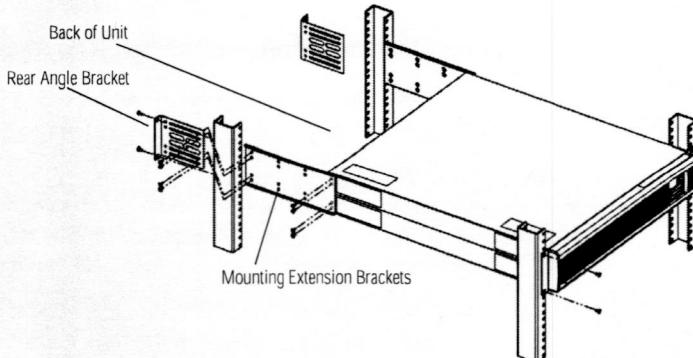
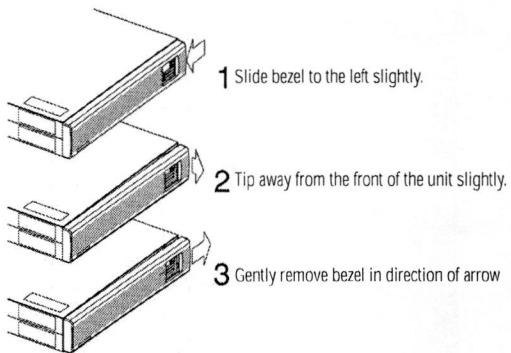

Fig. 9: Attaching the Back Angled Brackets
Fig. 10: Removing Front Bezel
4. Place the two large angled mounting brackets at the rear rack support rails with the long sides facing inward (fig. 9). Secure with four (4) rack fasteners (not provided). The ON2000 Universal Mount uses eight (8) fasteners (not provided).
6. Mounting extension brackets are flat with a small lip along each long side. The lip should face away from the cabinet. Attach one to each side of the cabinet using four (4) of the #6-32 screws, provided, through the four (4) round clearance holes (fig. 9) and tighten securely.
For the ON2000, attach two mounting extension brackets to each side of the cabinet using eight (8) of the #6-32 screws, provided, through the eight (8) round clearance holes and tighten securely. See figure 10.
8. Secure the ears of the front brackets to the front side of the rack posts with four (4) rack fasteners (not provided). The ON2000 Universal Mount uses eight (8) fasteners (not provided).
9. Secure each rear angled mounting brackets to the cabinet or extension brackets with four (4) of the #6-32 screws provided, eight (8) for the ON2000 Universal Mount (fig 9). Tighten securely.
1. Slide the bezel to the left (bottom) slightly, tip away from front of the unit slightly and then gently pull away from the UPS in direction of arrow (see fig. 10, number 3)to remove.
3. Replace the front bezel by reversing all three steps in fig 10.